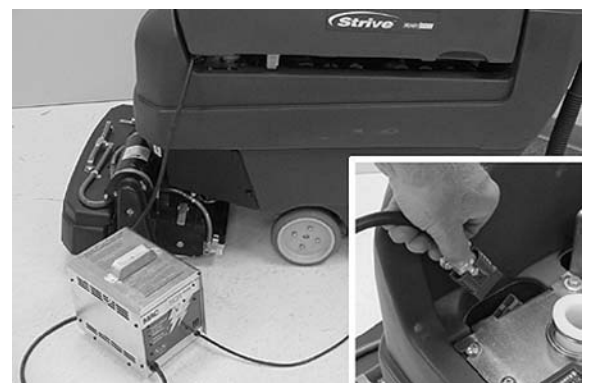

FIG. 26
6. Recharge the batteries (Figure 26). See CHARGING BATTERIES.